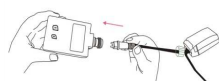

Fig. 2
4. Fully insert the fitting into the Power Supply (Fig. 2)